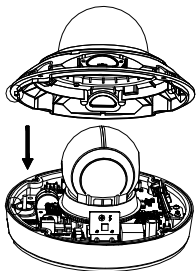

Figure 2-3 Install the Bubble
4. Align the bubble with the camera base, and install the bubble back. Fix the bubble with four screws, as shown in Figure 2-3.